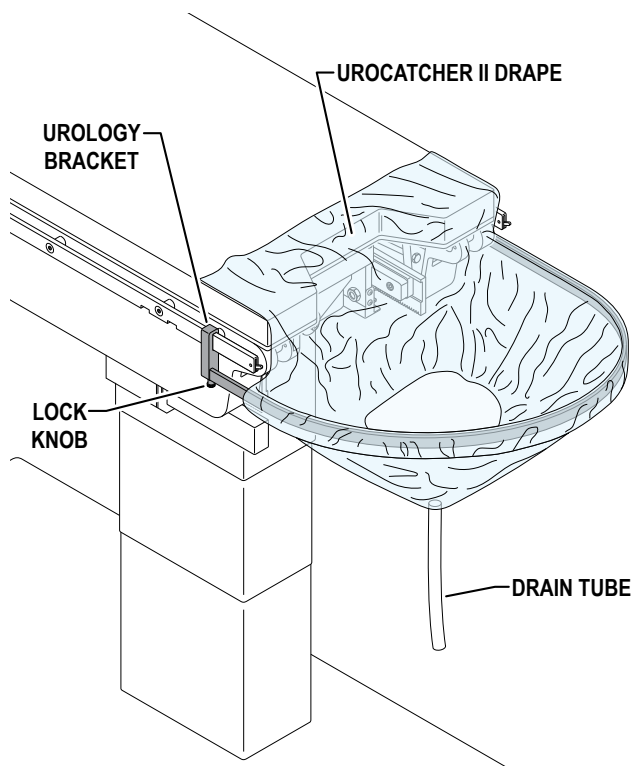

Figure 2. Attach Urocatcher II Drape
3. Place the Urocatcher II drape over the urology bracket (Figure 2).